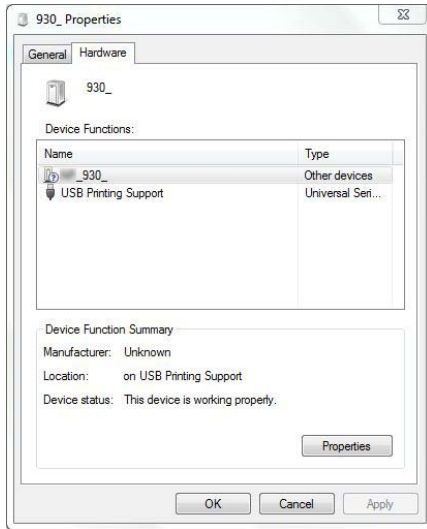

Figure 35: Properties of unspecified device
- Go to the tab "Hardware" and see the listed device functions (see Figure 35). Double-click on the printer (Type: Other devices); another properties window will open.